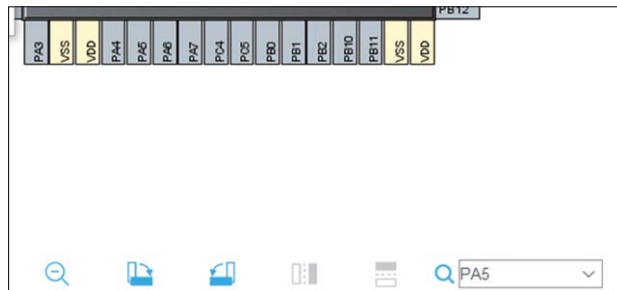

Figure 5.7: Locate pin PA5.
- Enter **PA5** at the bottom right hand of the screen as shown in Figure 5.7 to locate pin PA5 (this is the port pin where the on-board user LED is connected to). You should see pin PA5 on the chip layout flashing.